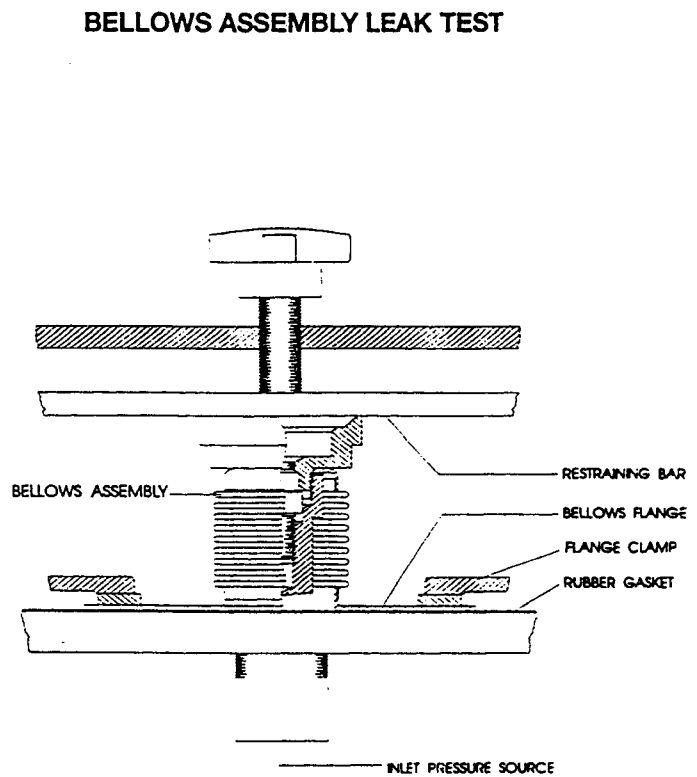

Figure 5.3
Place Bellows Gasket on Disc Holder. Thread Bellows onto Disc Holder and securely tighten. See Figure 5.3 for bellows leak test.
Place Gasket on Stem Retainer. Place Bellows on Stem Retainer. Thread Disc Holder to Stem Retainer using special assembly block. Thread Disc Holder Lock Screw counter clockwise until contact is made with the Disc Holder. See Figure 5.3 for bellows leak test.
See Figure 5.3 for Bellows Leak Test.
2. Seal the flange of the bellows to the base of the bellows test fixture as illustrated in Figure 5.3.
3. Compress the bellows approximately 1/8 inch with a securing bar so that the bellows does not elongate when pressure is applied as in Figure 5.3.